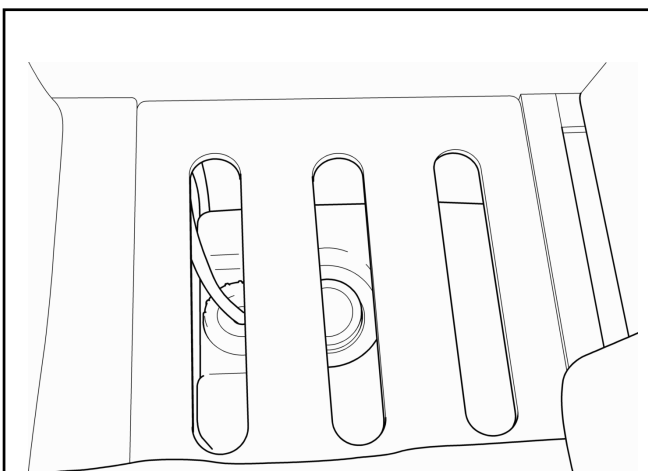

Fig. 1 Remove offside front bunk cushion and slatted board to access tank from inside the caravan.
1. Position the valves as shown in fig. 1.